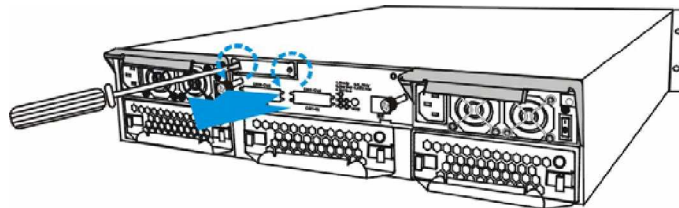

Figure 2-2: Loosening the Metal Sheet Retention Screws
- Step 1. Using a screwdriver, **loosen the two (2) retention screws located on both sides of the dummy plate.** (See **Figure 2-2**)